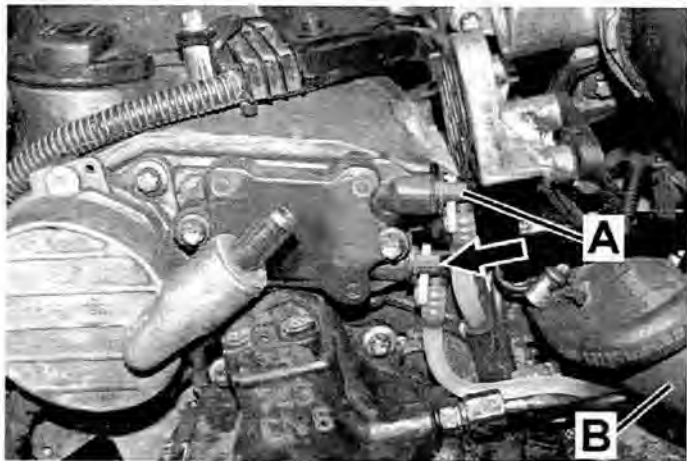

Figure 12
24. Remove fuel filter fuel line (arrow, Figure 12) from pre-delivery pressure pump:
- Disconnect fuel line (A, Figure 12) from pre-delivery pump; refer to WIS: AR47.25-P-1000-01A.
- Route fuel line (arrow) out from under coolant hose (B).
- Install **new** O-rings on fuel line connectors (A, arrow, Figure 12) on reassembly.